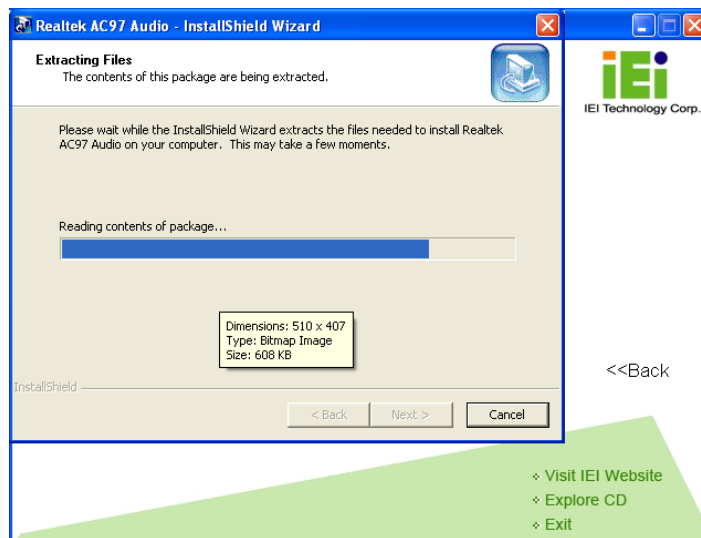

Figure 7-25: AC'97 Driver Installation File Extraction
Step 2: The installation files are extracted as shown in **Figure 7-25**.